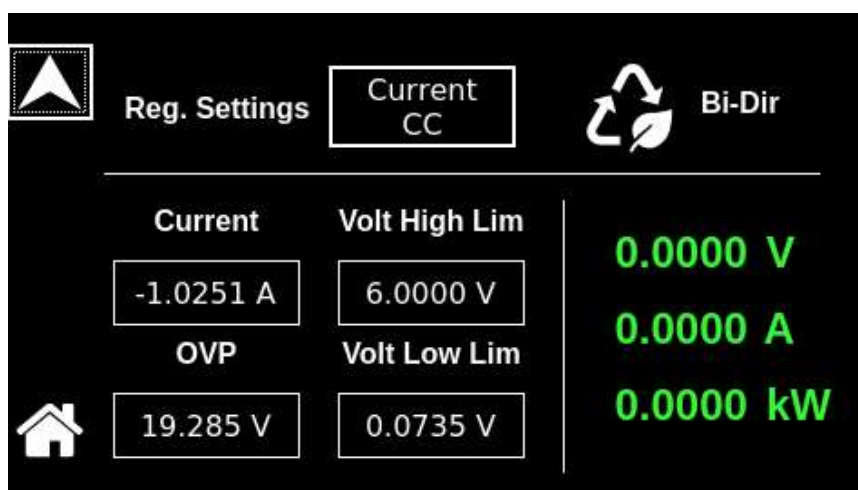

**Figure 8-11. Dashboard Screen in CC Mode**
- b) **Current** - CC Regulation setting is shown in Figure 8-11,